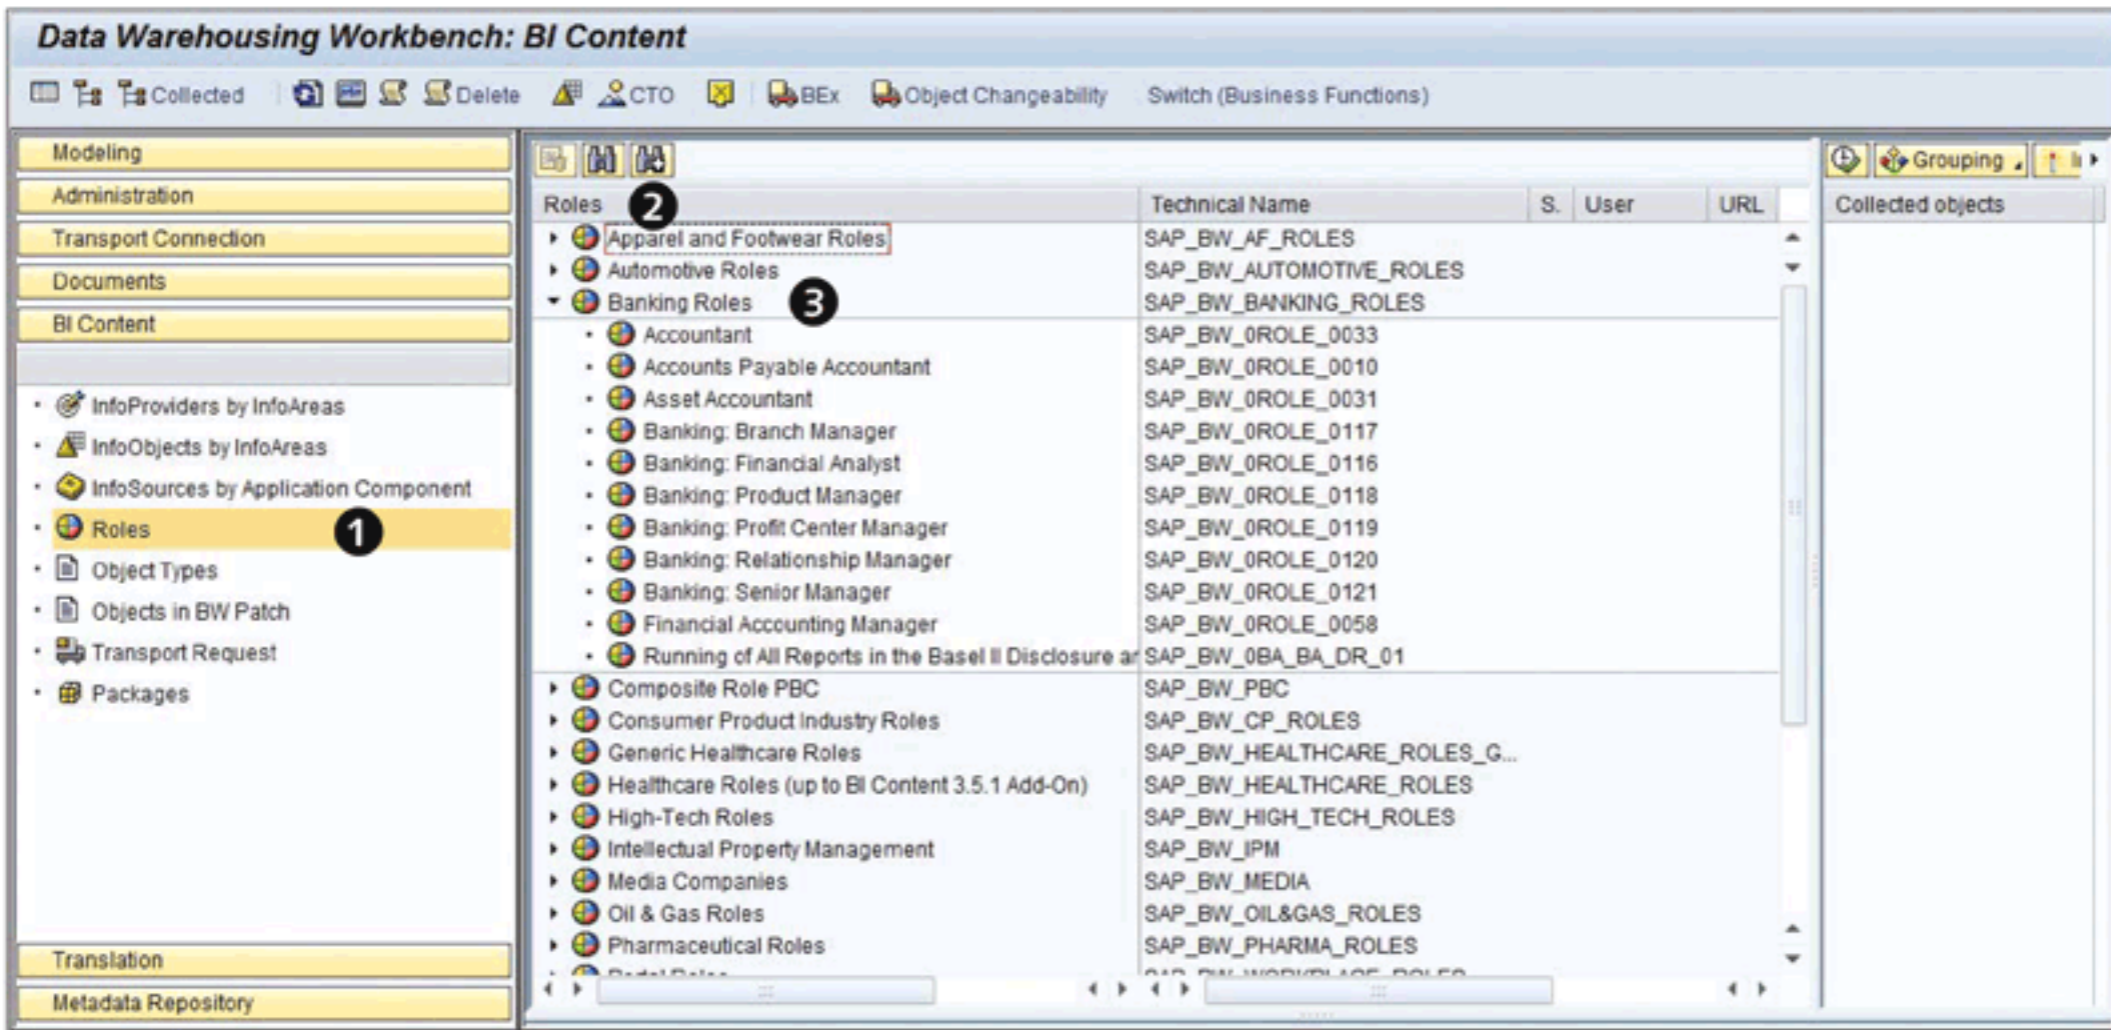

Figure 2.25 Business Content: Roles
Now click on ROLES, as shown in 1 of Figure 2.25. The right panel shows a list of roles offered by Business Content (2).